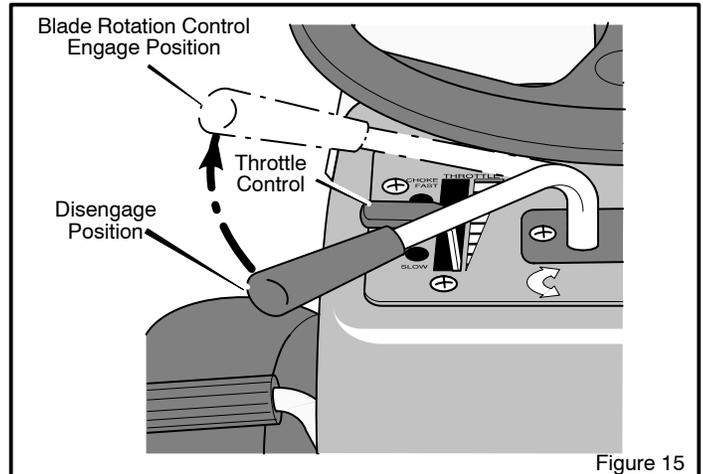
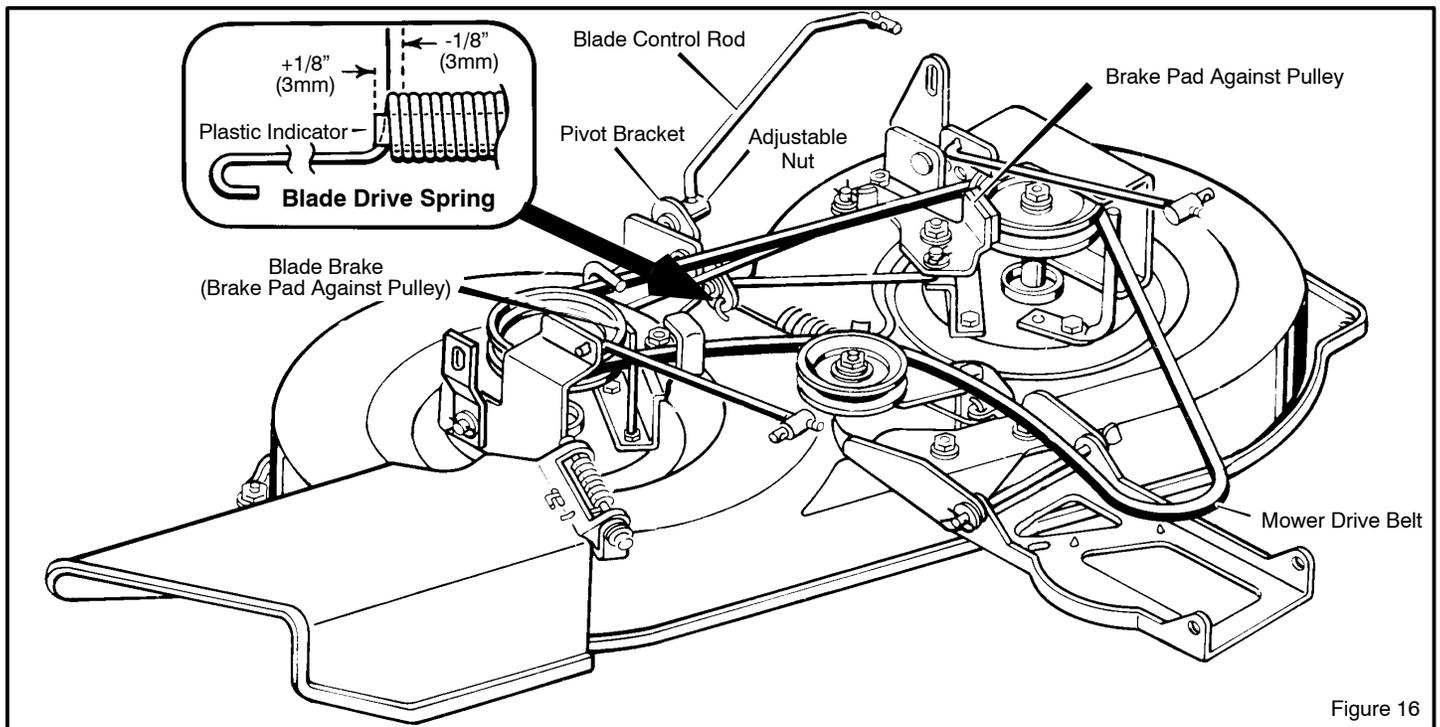

Figure 15
Figure 16
4. Move the **blade rotation control** to the **ENGAGE** position (Figure 15). Check the **plastic indicator** inside the **blade drive spring** (Figure 16). The end of the **plastic indicator** must be aligned (+ or -) 1/8 inch / 3 mm with the last coil of the **blade drive spring**.